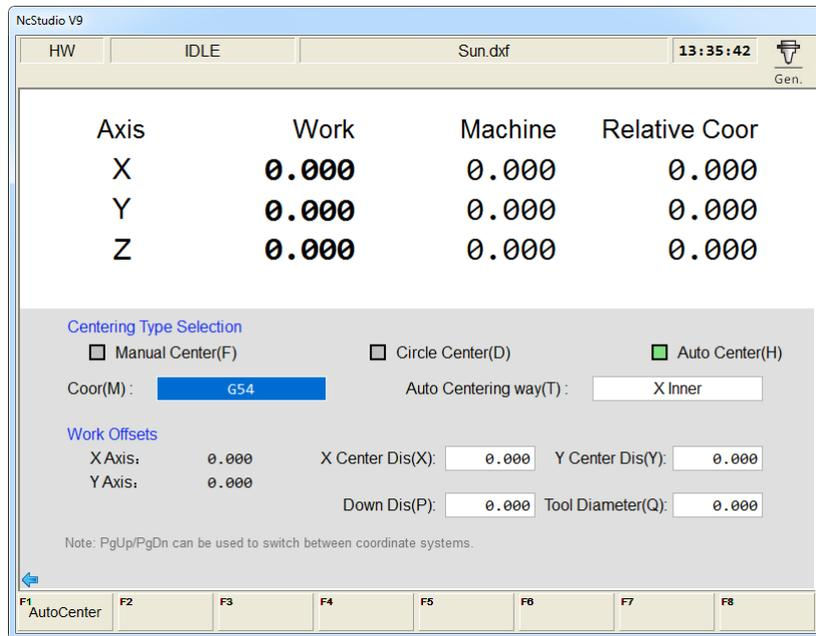

Fig. 3-49 Auto centering sub-screen
In manual mode, press  ==> F5 “Center” to access the centering interface. Press the letter key “D” to select “Circle Center (D)”, as shown in Fig. 3-49.
In manual mode, press  ==> F5 “Center” to access the centering interface. Press the letter key “H” to select “Auto Center (H)”, as shown in Fig. 3-49.